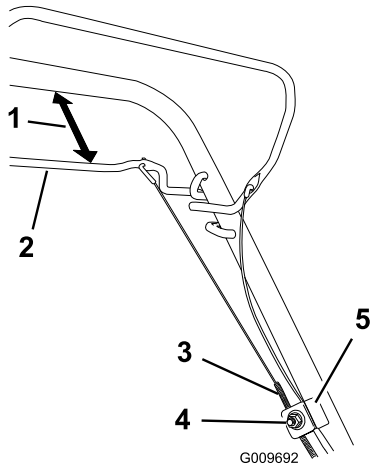

Figure 28
1. Loosen the cable-support nut (Figure 28).
2. Hold the self-propel bail 25 to 38 mm (1 to 1-1/2 inches) from the handle (Figure 28).
3. Pull down the cable jacket (toward the machine) until there is no slack in the cable (Figure 28).